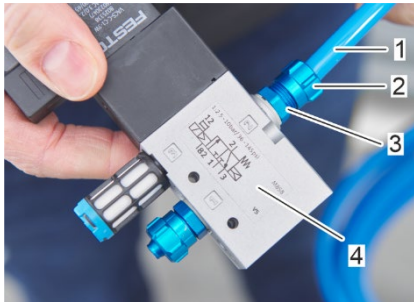

Fig. 65: Secure the compressed air hose on connection 2
8. Push the valve-side end of the compressed air hose (Fig. 65/1) onto the screw-in stud on connection 2 (Fig. 65/3) of the 3/2-way solenoid valve (Fig. 65/4).
9. Secure the compressed air hose (Fig. 65/1) on connection 2 of the 3/2-way solenoid valve by screwing the union nut (Fig. 65/2) onto the screw-in stud (Fig. 65/3).